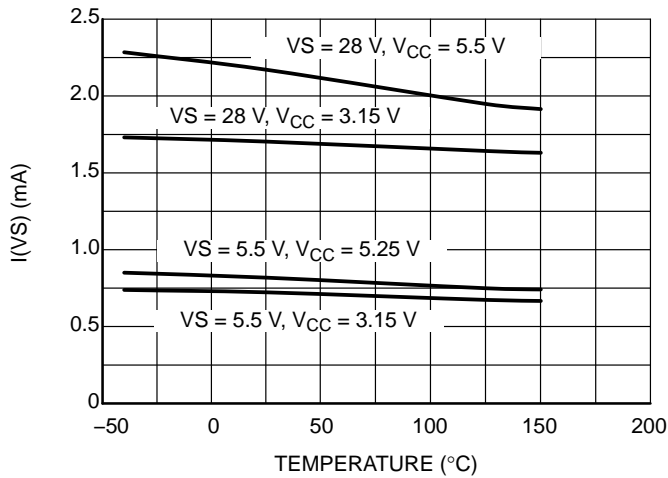

Figure 11. $I(VS)$ vs. Temperature
- Refer to Figure 11. I(VS) versus Temperature.